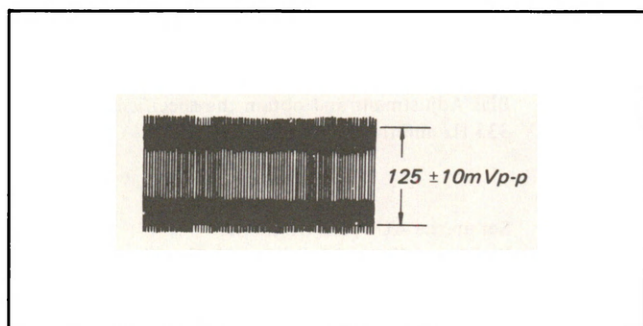

Fig. 4-40. FM record current adjustment
- (4) Adjust RV1 for 125 ± 10 mVp-p. (See Fig. 4-40.)